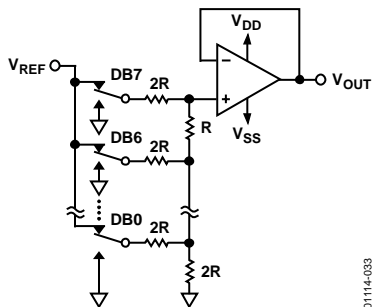

Figure 33. Typical Equivalent DAC Channel
Each part contains four voltage-switched R-2R ladder DACs. Figure 33 shows a typical equivalent DAC. These DACs are designed to operate both single-supply or dual-supply, depending on whether the user supplies a negative voltage on the V_{SS} pin. In a single-supply application, the V_{SS} is tied to ground. In either mode, the DAC output voltage is determined by the V_{REF} input voltage and the digital data (D) loaded into the corresponding DAC register according to Equation 1.